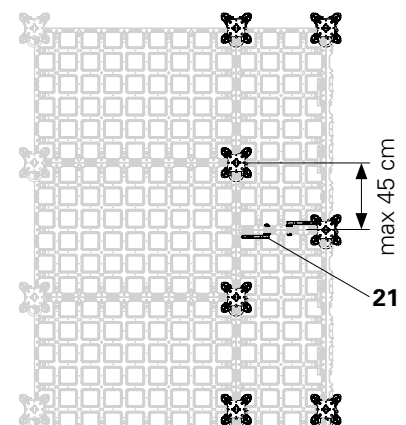

Fig. D3.05b
- both DP panels are connected at the shorter joint with 2 DUO couplers (**21**). (Fig. D3.05b)